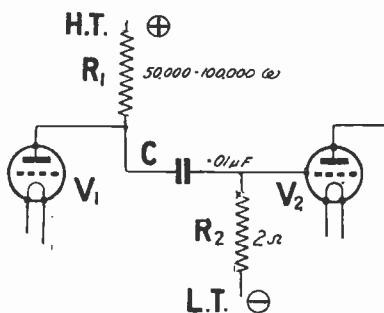

Fig. 2.—Details of the resistance coupling connections.
be constant and it may be noisy. The value of the resistance  $R_1$  in Fig. 2 may be 50,000-100,000 ohms.
Fig. 2 shows diagrammatically the details of the resistance coupling. The actual coupling between the plate of  $V_1$  in the drawing and  $V_2$  is provided by a coupling condenser (C). Condensers up to  $.25 \mu F$  have been used in this position, but excellent results are to be obtained with a capacity of  $.01 \mu F$ . Now a condenser of this size can be obtained quite cheaply in the clip-in type with a mica dielectric. Since the grid of  $V_2$  is insulated by the coupling condenser C, a leak,  $R_2$ , must be provided. A suitable value for this is 2 megohms, and it is essential that the leak used should be of the best quality, for otherwise its resistance may not